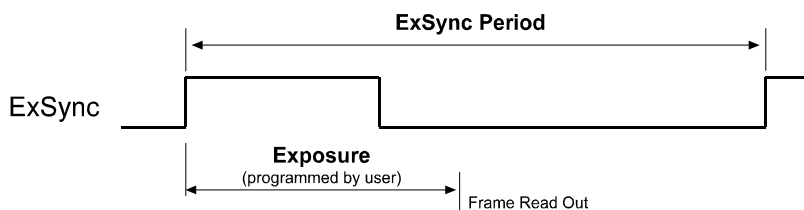

Figure 4-3: ExSync Programmable Mode
- In **ExSync programmable mode**, the rising edge of ExSync triggers the start of exposure. Exposure and charge accumulation continue for a pre-programmed length of time. The frame is read out and transferred at the end of the pre-programmed exposure time. The length of the pre-programmed exposure time is determined by the exposure time setting. The falling edge of ExSync is not relevant (see Figure 4-3).
- In **ExSync flash window controlled mode**, the rising edge of ExSync triggers the start of exposure and charge accumulation. The frame is read out and transferred at the end of an exposure time calculated by the camera. The falling edge of ExSync is not relevant (see Figure 4-3).